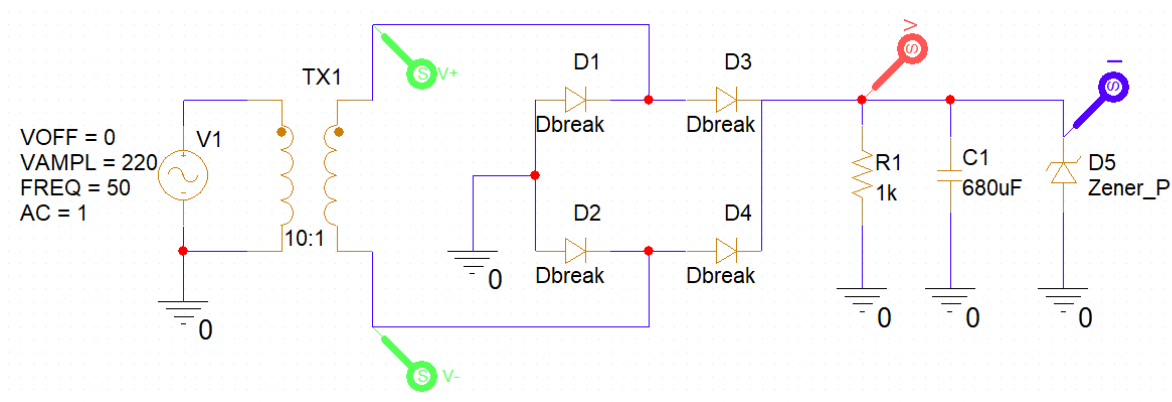

Figure 1.31: Rectified voltage regulated with a capacitor and a zener diode
- **Step 4:** Add a zener diode as in Figure 1.31 with the *zener voltage* properties set to 22 volt then simulate the circuit and comment or explain the result.